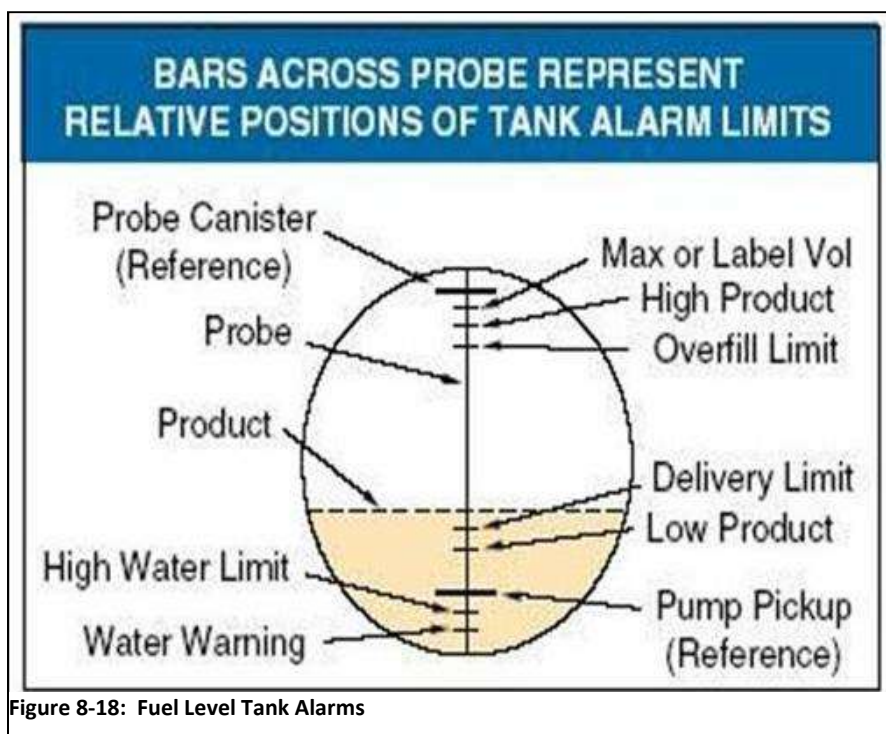

Figure 8-18: Fuel Level Tank Alarms
- An overfill condition exists when, during a fuel drop, the gasoline level in the UST exceeds the Overfill Alarm setting, which is 90% capacity of the UST. **See Figure 8-18.**